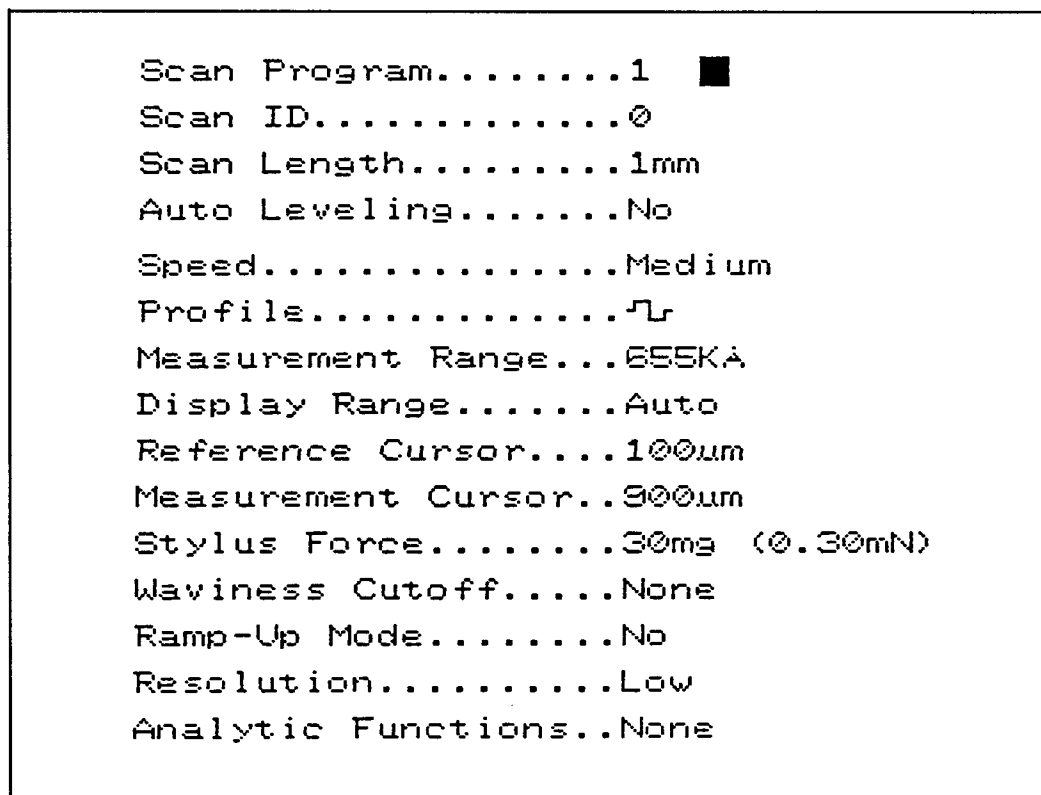

Figure 4-3. Typical Scan Program Menu
4. Move the prompt to the Scan Program Menu using the arrow keys. Press **ENTR**. A program menu similar to the following will appear on the screen (Figure 4-3).